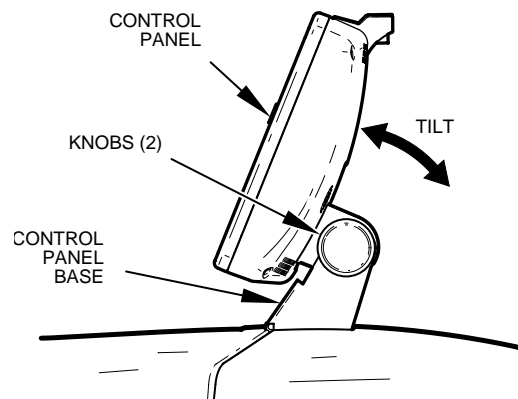

Figure 2-3. Control Panel Adjustment
1. Loosen the two knobs located just behind the control panel on either side of the base (see figure 2-3 on the next page).
1. Loosen the two knobs on either side of the base of the control panel (see figure 2-3). The knobs turn in opposite directions.